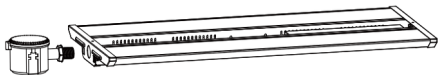

Figure 10
Step 2. Knock out the side cover, mount the sensor onto the side mounting position, and wire the sensor in accordance with the instructions provided on the sensor itself. [Figure 10]